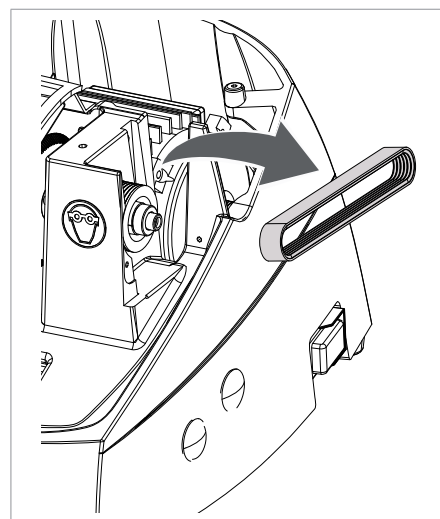

Fig. 56
- 7) Raise the motor and remove the worn belt (Fig. 56).